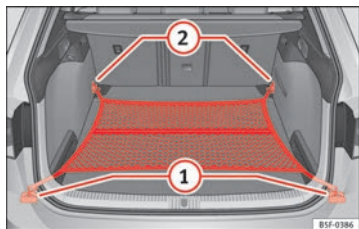

Fig. 110 In the luggage compartment: net bag hooked up at floor level (LEON ST model).
- As applicable, lift the front fastening rings ⇒ Fig. 110 (2).
- Secure the net hooks to the fastening rings (2) ⇒ ⚠. The bag zip should be facing upwards.
- Secure the net hooks to the fastening rings (1).